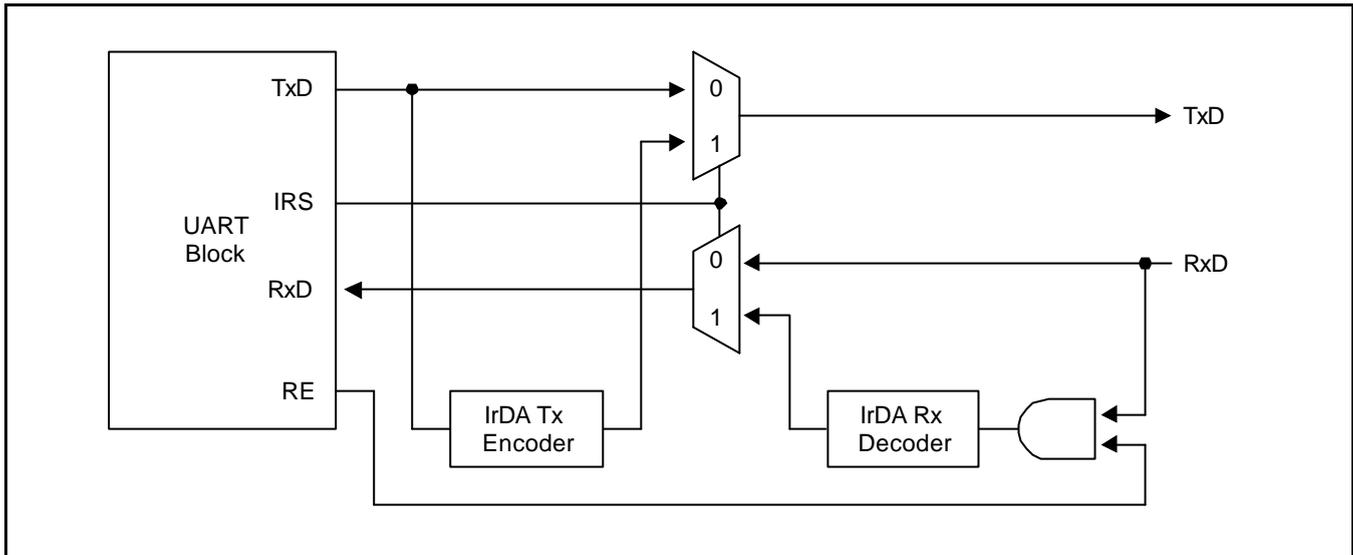

Figure 11-3. IrDA Function Block Diagram
The S3C2410X01 UART block supports infra-red (IR) transmission and reception, which can be selected by setting the infra-red-mode bit in the UART line control register (ULCONn). The implementation of the mode is shown in Figure 11-3.